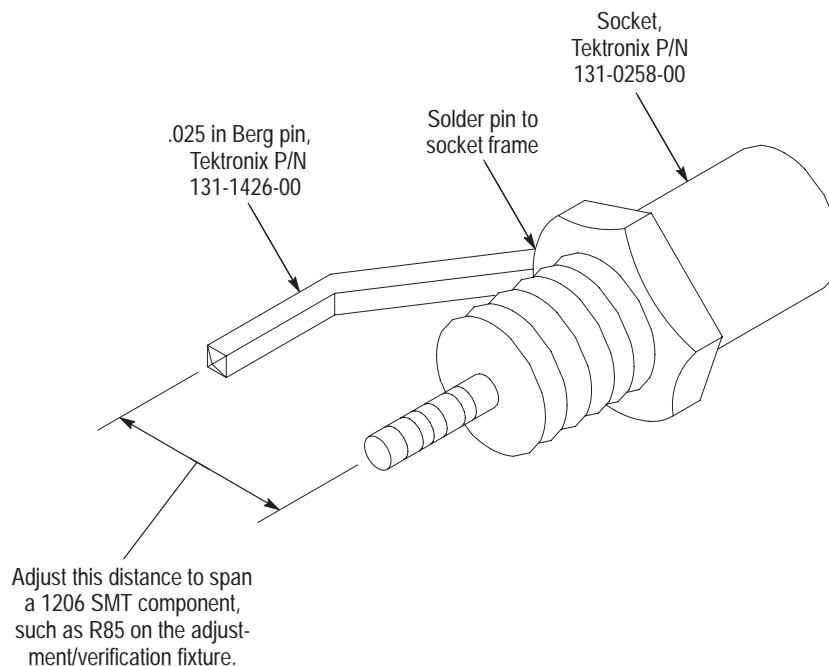

Figure 7-1: Probe tip adapter detail
A custom probe tip adapter is used in these procedures to ensure signal integrity when making precise measurements. The primary function of the custom probe tip adapter is to minimize the length of the ground lead of the probe. Build the custom probe tip adapter as shown in Figure 7-1.
Equipment required	TDS 784D Oscilloscope (item 6) 2 DSO probes (item 7) Custom probe tip adapter (see Figure 7-1, page 7-10)
Equipment required	TDS 784D Oscilloscope (item 6), 2 DSO probes (item 7) Custom probe tip adapter (see Figure 7-1, page 7-10)